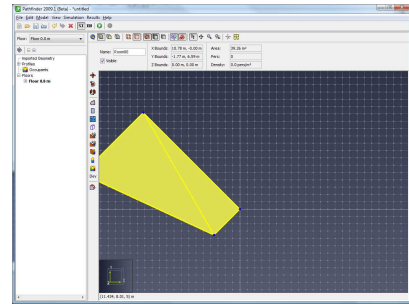

Figure 121. Rotated object
- The third defines a second vector extending from the rotation base (Figure 121). The rotation angle is the angle between these two vectors.